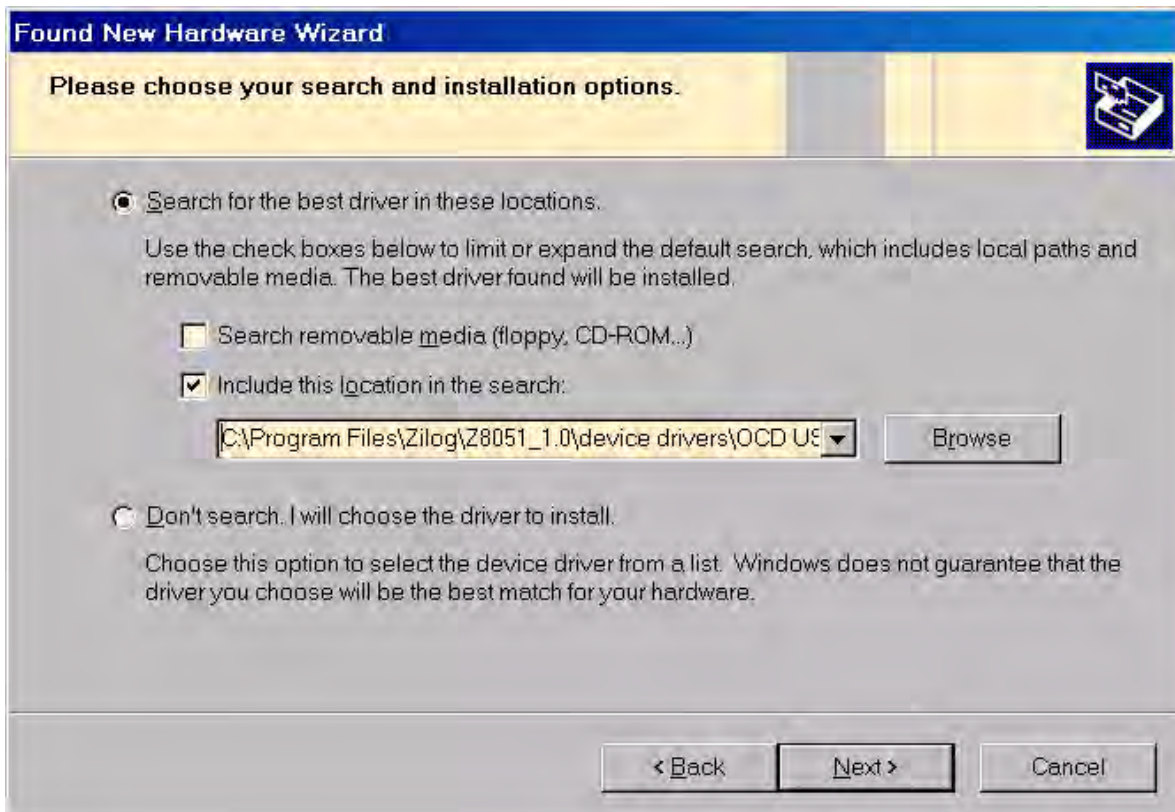

Figure 69. The Found New Hardware Wizard's Browse Screen
3. The next dialog box, shown in Figure 69, prompts you to enter a path or navigate to the directory in which the .inf file was installed. Depending on the type of computer you use (32-bit or 64-bit), use the **Browse** button to navigate to one of the following paths and click the **Next** button, leaving all other selections at their default settings.